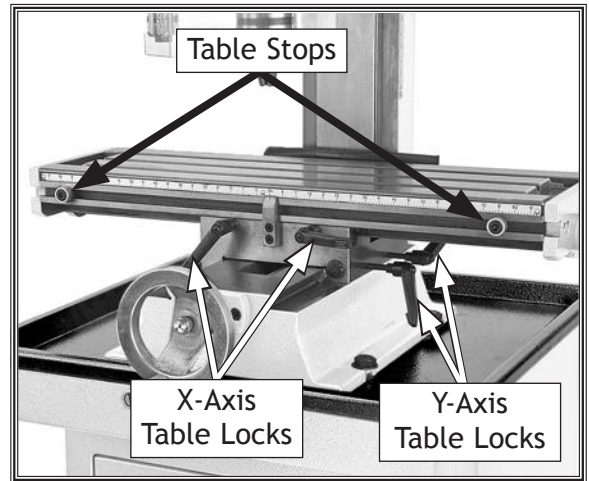

Figure 23. X- and Y-axis table travel locks.
1. Loosen both X-axis table locks shown in **Figure 23**.
The saddle does not have limit stops. To move the table along the Y-axis, loosen the Y-axis table locks shown in **Figure 23**, then use the handwheel in front of the table in the same manner as the X-axis handwheel.